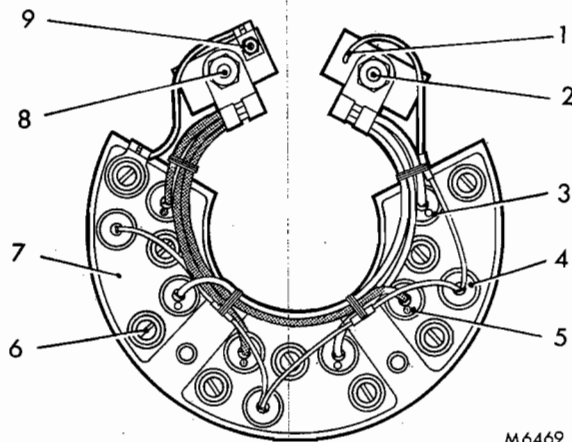

FIG. 2. HEAT SINK RENEWAL
10. Check each diode in the assembled heat sinks (see Fig. 2) using a 44 or 48W test light connected in series with a probe in the positive line of a 24V supply and a second probe connected to the negative line of the supply. The following diagnostic testing chart will indicate defective diodes:
**NOTE:** The main diodes are identified by coloured spots; diodes with a red spot must be connected to the main output terminal and diodes with a black spot must be connected to the negative main output terminal (see Fig. 2).